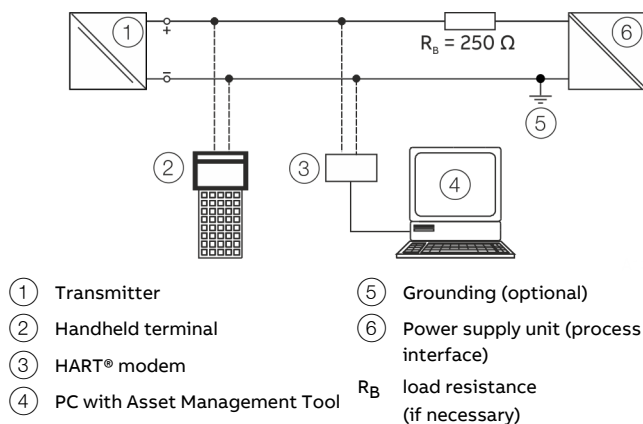

Figure 1: Example for HART® connection
4. Complete the installation in accordance with **Figure 1** on page 4.